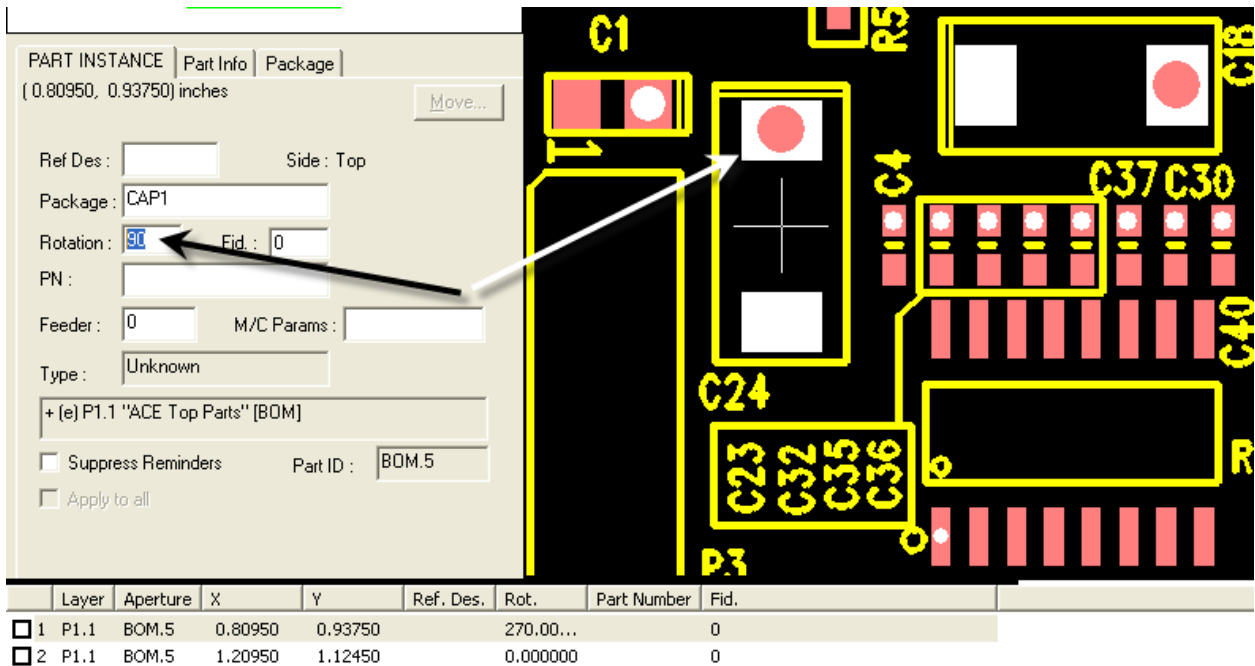

Figure 39
1. Edit enable the Top Parts and Silkscreen layers, then Zoom into U1 and position the cursor + crosshair at the bottom-left corner of the “U” character. Press the “z” (Tools > Zero Relative) to Zero the Relative coordinates – See Figure 39: